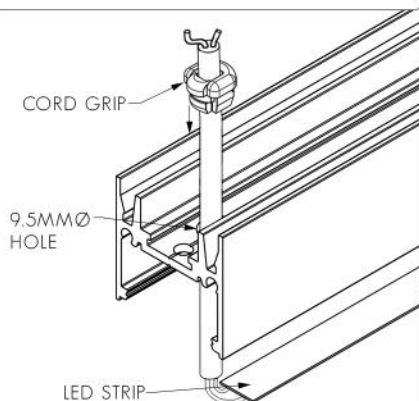

FIG. 2 - MAKE ELECTRICAL CONNECTION
1. FEED LED STRIP TAILS (OR CABLE) THROUGH HOLE IN EXTRUSION AND CLAMP USING CORD GRIP SUPPLIED. (SEE FIG. 2 ON NEXT PAGE). DO NOT INSTALL LED STRIP AT THIS POINT.
2. MAKE ELECTRICAL CONNECTION: CONNECT LED STRIP TAILS TO LED DRIVER (SEE FIG. 2 ON NEXT PAGE IF SUPPLIED WITH MALE/FEMALE CONNECTORS).